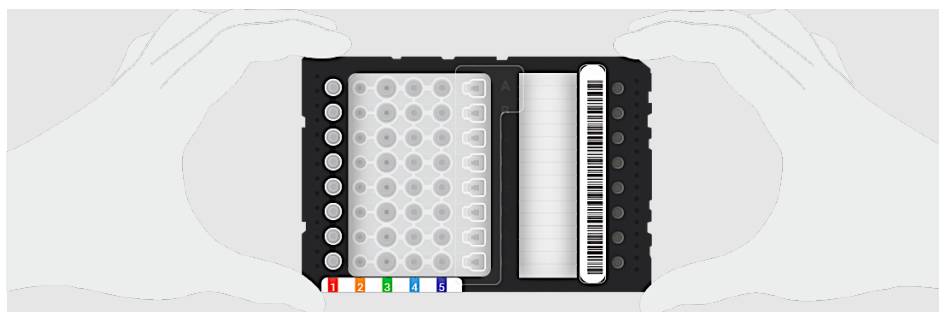

Figure 3. Proper handling and placement orientation of an Ionic fluidic chip.
3. When prompted, remove a fluidic chip from its packaging, handling only by the side skirting, and place it on the instrument stage with the barcode on the right as shown in **Figure 3**. Gently apply pressure to all four corners of the fluidic chip simultaneously to confirm that the chip is fully seated on the stage. Press the **Arrow** on the right side of the screen to continue.